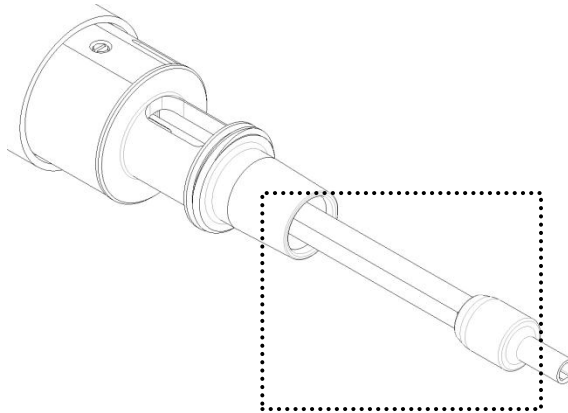

Figure 15
10. At the end of the day, fully extend the IOL Injector Handpiece shaft (shown in fig. 15). Remove the nosecone and wipe the exterior IOL Injector Handpiece shaft enclosed by the dotted line with a soft, non-abrasive cloth. After wiping, reinstall the nosecone, then fully retract the IOL Injector Handpiece shaft and verify orientation of the nosecone with respect to the cable (figure 5).